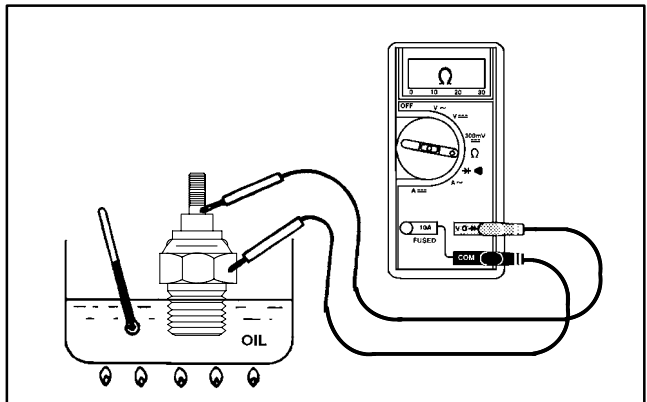

Figure 42
2. Suspend sender in a container of oil with a thermometer and slowly heat the oil (Fig. 42).